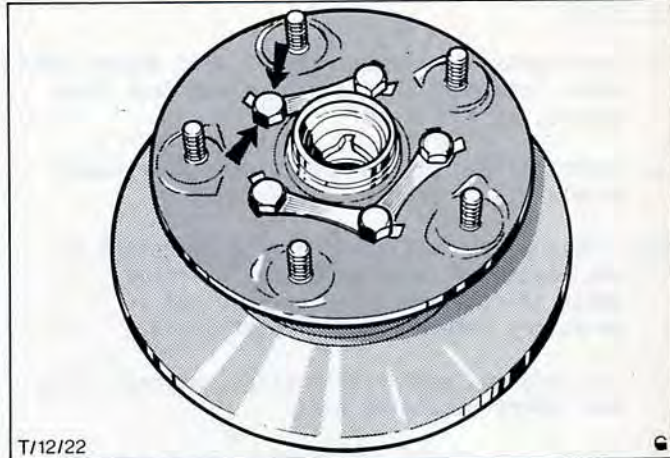

Fig.27. Hub to disc retaining bolts and locktabs.
6. Refit disc to hub assembly, align mating face marks. Using new lock tabs, secure disc to hub and torque to specification, Fig.27.